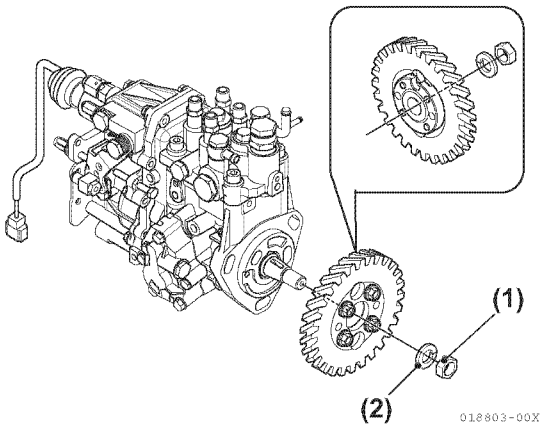

Figure 6-68
5. Reinstall the fuel injection pump drive gear lock washer (Figure 6-68, (2)) and nut (Figure 6-68, (1)). Do not lubricate the threads of the nut or shaft. Hold the crankshaft pulley bolt with a socket wrench and tighten the drive gear nut to the specified torque. See *Special Torque Chart* on page 6-43.